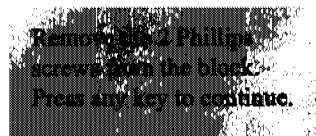

Figure 5.7. Remove Phillips Screws message
6. Press any key. As the plunger arm moves down, the display show "Clean Syringe." When the movement stops, the following message displays (Figure 5.7).